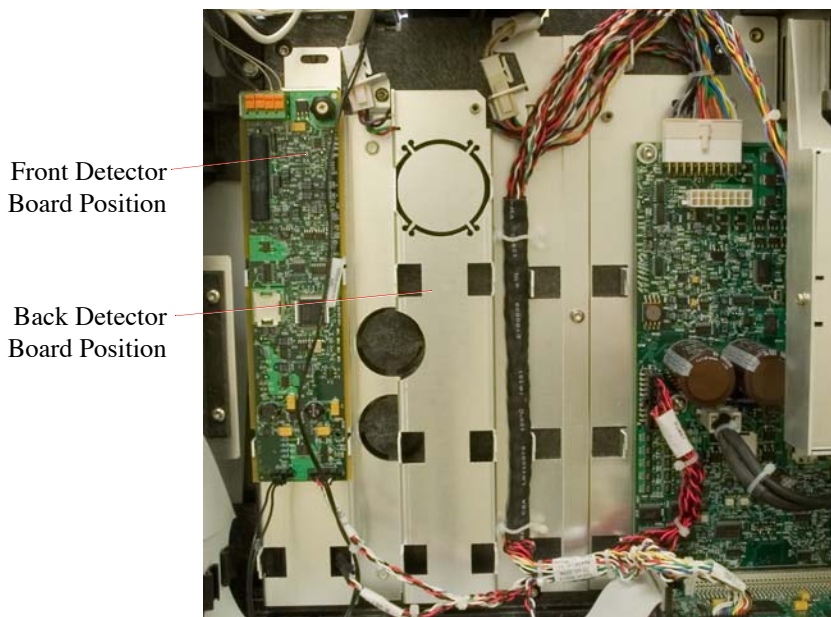

Figure 3.2. Positioning the Electrometer Interface Board
2. Position the electrometer interface board in the frame directly under the detector position; see Figure 3.2.